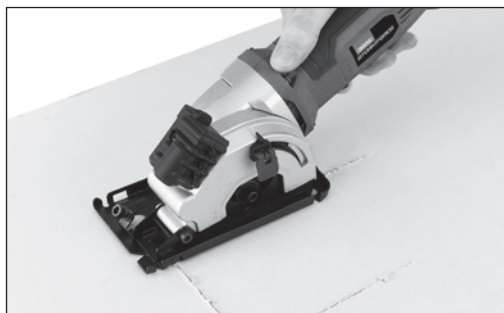

Fig. 13
- If excessive dust is present after operation, keep the tool on for a few seconds before switching off to allow the dust to clear via the extraction outlet (12).
8.2 Cutting Out Tips (Fig.13)